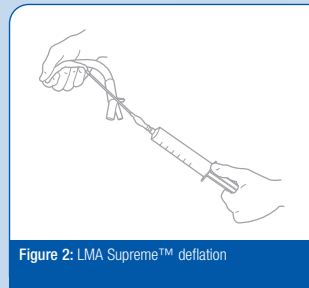

Figure 2: LMA Supreme™ deflation
- While deflating, hold the device so that the distal end is curled slightly anteriorly as shown in Figure 2